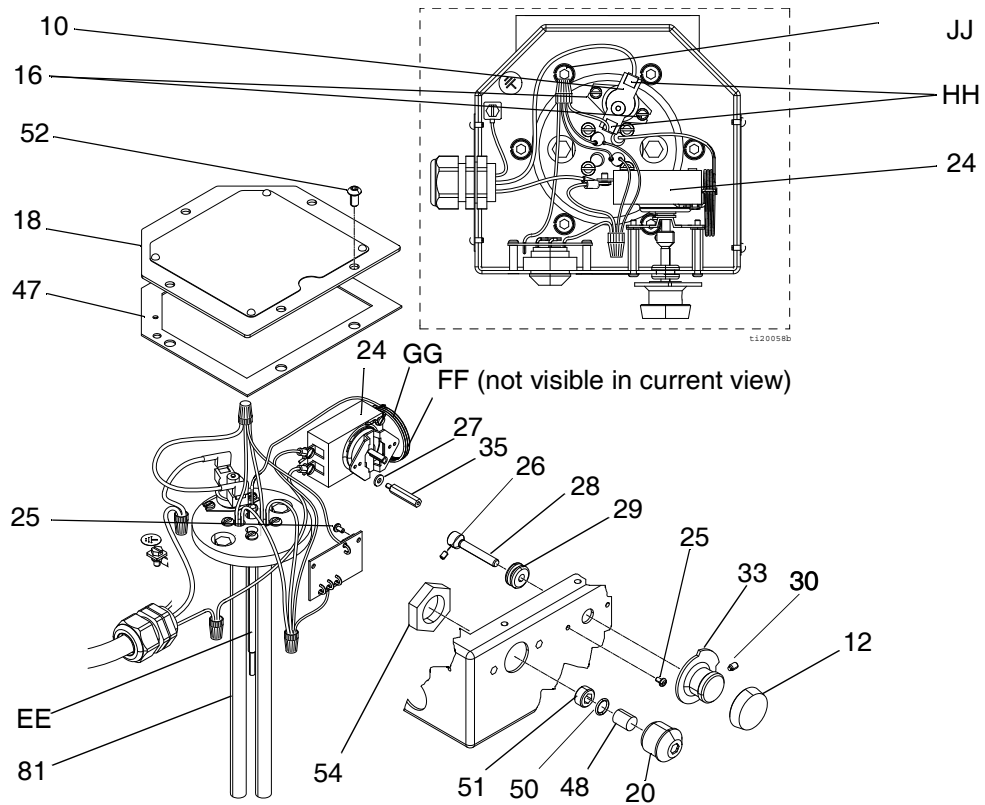

FIG. 12: Thermostat Repair
(For model with thermostat, see FIG. 12 on page 21)
This procedure applies to thermostat-controlled heaters only. See the **Fig. 12: Thermostat Repair** on page 21.
- Refer to FIG. 12 or FIG. 13 on page 21 for wiring connections.
- **Model 262853 and 24W612 Only:** Make sure the core (68) is aligned with the plug (82) pin in housing (67).
- Make sure gasket (47) is installed and aligned with electrical housing screw holes.
- Secure cover (18) with screws (52). Torque screws to 85-90 in-lb (10 N•m).